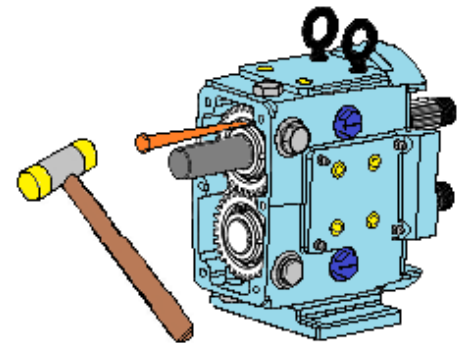

Figure 65 – Installing Lock Nuts
8. Next bend the tab on the lock washer into the locking nut slots. This secures the gear lock nut into place, Figure 65.